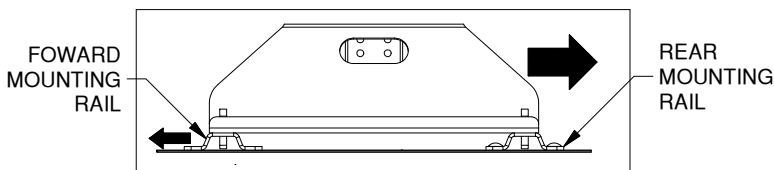

Figure C2: Side view of RV base and mounting rails.
**IMPORTANT:** Before drilling forward mounting holes pull the RV base towards the rear of the truck and push the forward rail towards the cab of the truck to correctly space the mounting rails, see figure C2.